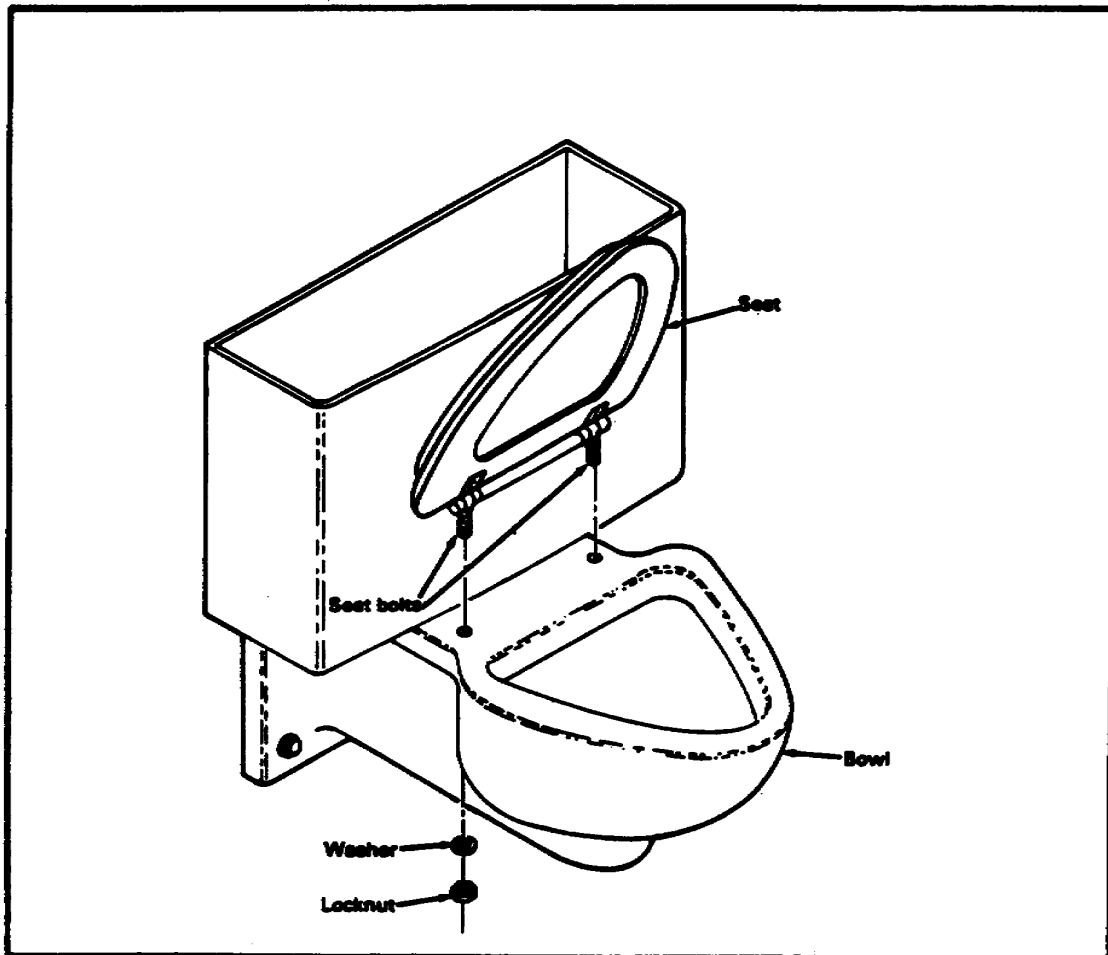

FIGURE 34. INSTALLING WATER CLOSET SEAT
*Installing the seat.* Use the following steps to install the seat (see Figure 34):